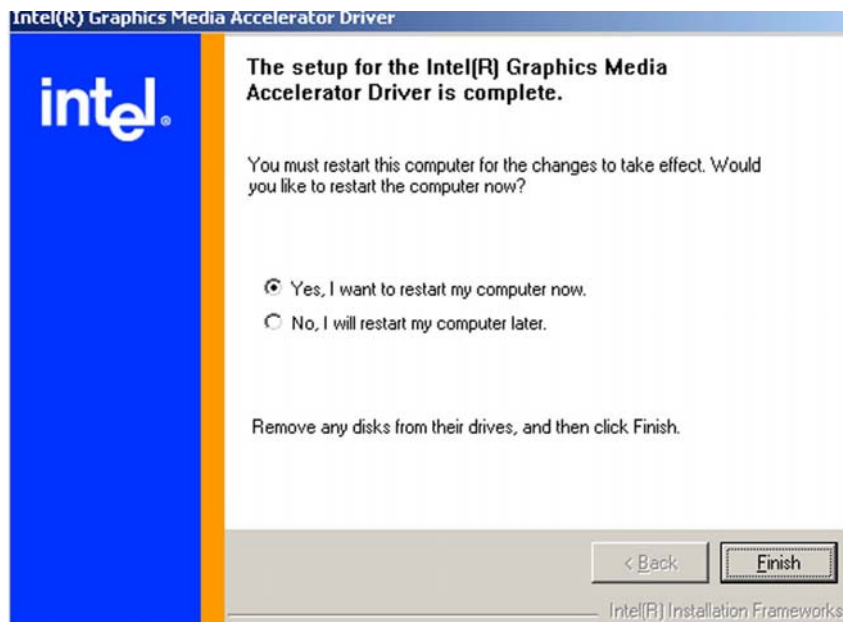

Figure 6-11: VGA Driver Installation Complete
Step 8: After the driver installation process is complete, a confirmation screen shown in Figure 6-11 appears.
Step 9: The confirmation screen shown in Figure 6-11 allows user to restart the computer immediately after the installation is complete or to restart the computer later. For the settings to take effect the computer must be restarted. Once decided when to restart the computer, click the “FINISH” button.